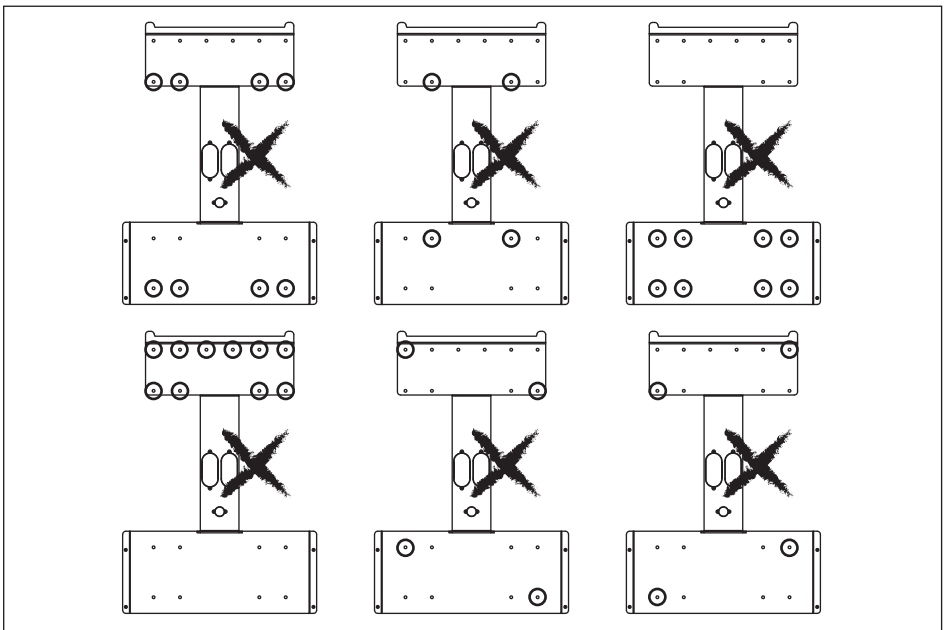

Figure 3-4 : Prohibited position for screws
5. **Figure 3-4** through **3-8** describes correct mounting installation.